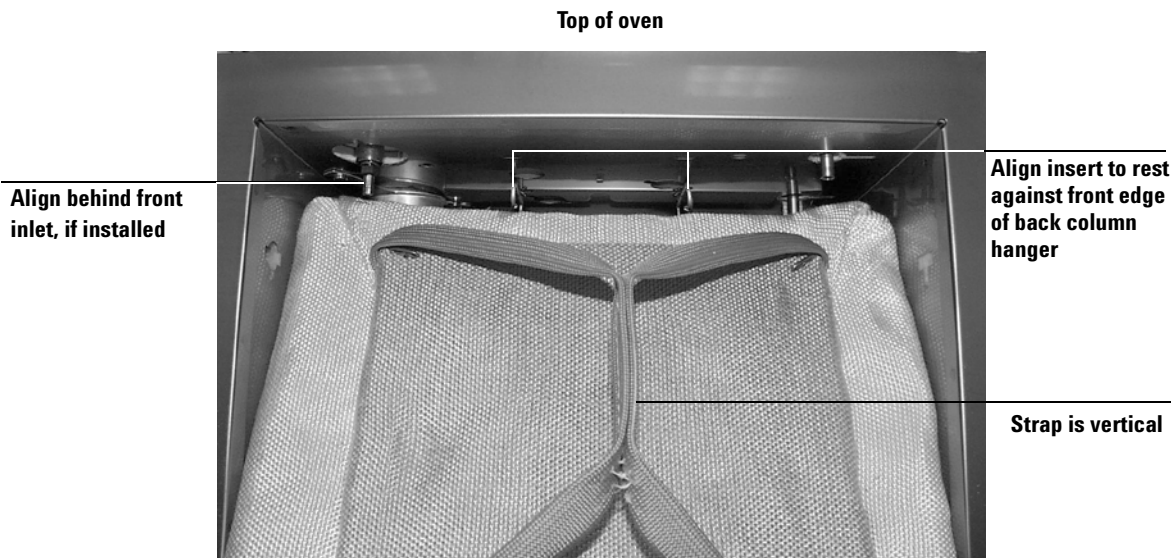

Figure 3 Installing the insert in front of the back column hanger
- 2 Orient the oven insert as shown in Figure 3 below. Tilt the upper edge away from you and insert it between the column fittings for the front inlet/detector and the back column hanger.